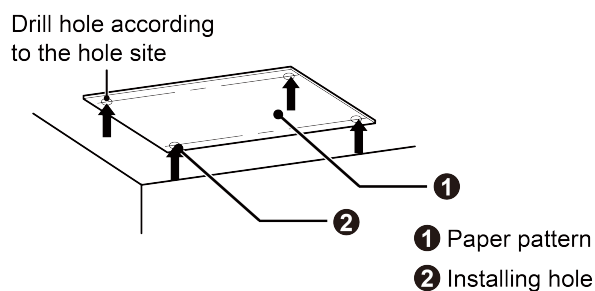
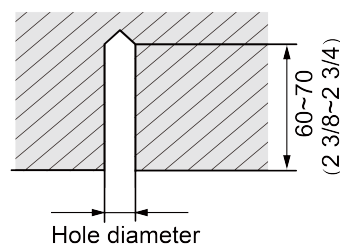

Fig. 4.1.2
Fig. 4.1.3
- 1) Stick the reference cardboard on the installation position; drill 4 holes according to the hole site on the cardboard as shown in Fig. 4.1.2; diameter of drilling hole is according to the diameter of expansion bolt and the depth is 60-70mm (2-3/8~2-3/4 inch), as shown in Fig.4.1.3.